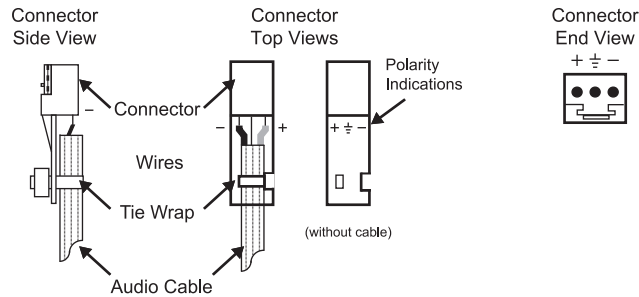

Figure 2.5 Connector Wiring for R1C-8733 and R2C-8733 Input Sockets
1. Insert an analog audio wire to the designated polarity slot on the connector of the rear module. **Figure 2.5**